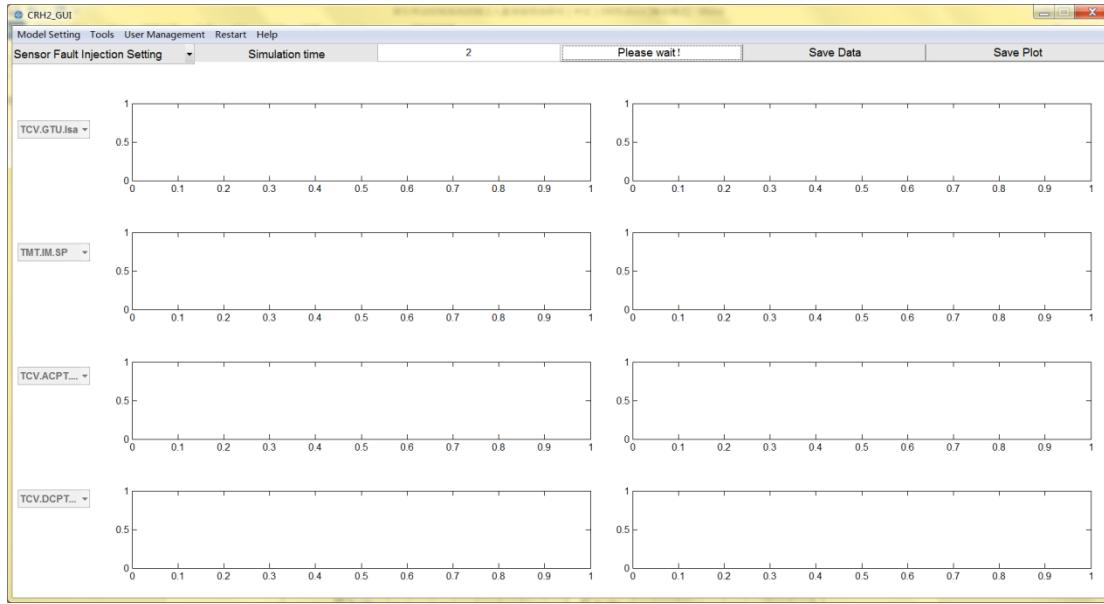

Fig. 55 Being simulation
⑥Click the ‘Start Simulation’ button to start the simulation, as shown in Fig. 55.